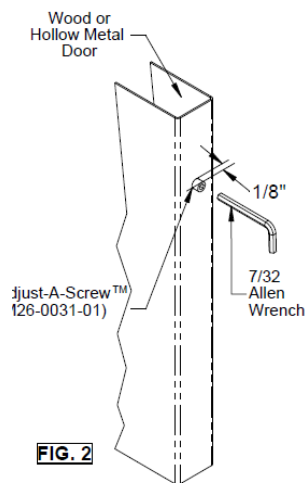

FIG. 2
• Insert Adjust-A-Screws (Hex Head 3/8-16 External Thread, #10-32 Internal Thread (M26-0031-01)) into every hole. Place a 7/32" Allen wrench in the opening of the Adjust-A-Screw and turn the Adjust-A-Screw into the hole while keeping the screw properly aligned as shown (Fig. 2). Drive all the Adjust-A-Screws in until it's approximately 1/8" from edge of door.
• Insert Adjust-A-Screws into every hole. Place a 7/32" Allen wrench in the opening of the Adjust-A-Screw and turn the Adjust-A-Screw into the hole while keeping the screw properly aligned as shown (Fig. 2). Drive all the Adjust-A-Screws in until it is approximately 1/8" from edge of door.